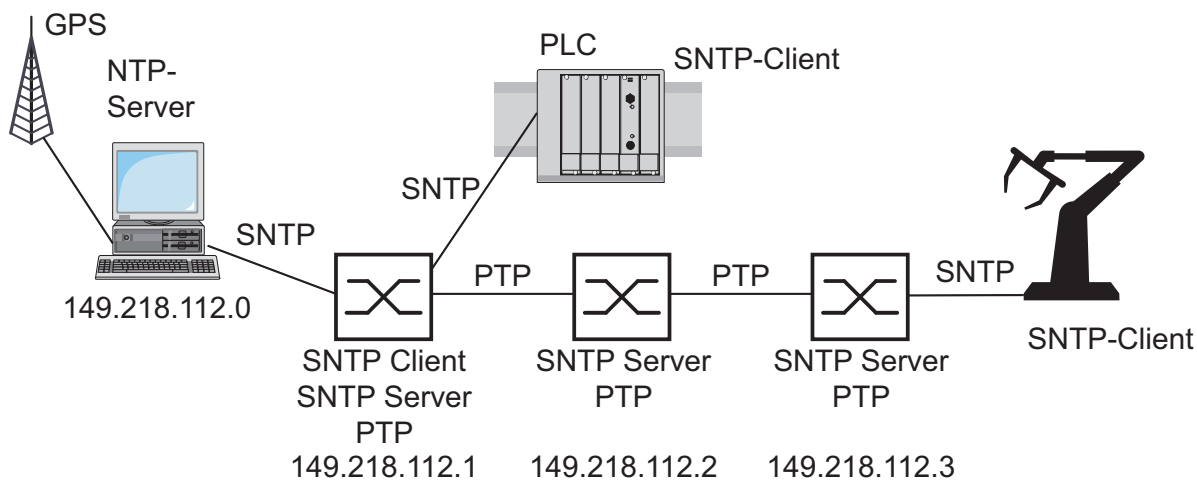

Figure 32: Example of the coexistence of PTP and SNTP
**Note:** Configure the devices so that each device only receives the time from one source. If the device gets the time via PTP, you enter the "External server address" 0.0.0.0 in the SNTP client configuration and do not accept SNTP broadcasts. If the device gets the time via SNTP, make sure that the "best" clock is connected to the SNTP server. Then both protocols will get the time from the same server. The example (see fig. 32) shows such an application.
The requirements with regard to the accuracy of the time in the network are quite high, but the terminal devices only support SNTP (see fig. 32).